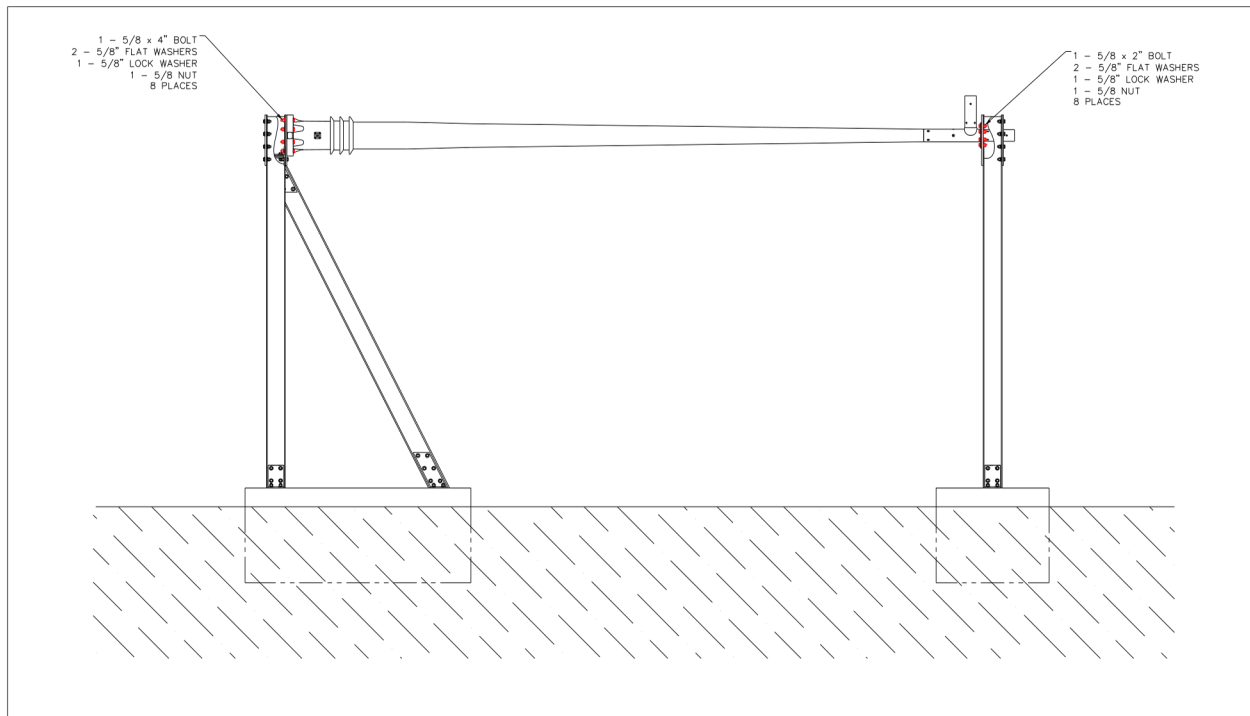

Figure 4-13 Assembly steps 15 and 16
- (15) Securely fasten the base side of the antenna to the three-legged structure using eight 5/8" x 4" bolts. Apply a few drops of thread-locker (Item 23, Table 2-1) to the threads before assembly. Refer to Figure 4-13.
- (16) Securely fasten the joint side of the antenna to the two-legged structure using eight 5/8" x 2" bolts. Apply a few drops of thread-locker (Item 23, Table 2-1) to the threads before assembly. Refer to Figure 4-13.
- (17) Securely tighten all hardware previously only “loosely” installed. Apply a few drops of thread-locker (Item 23, Table 2-1) to the threads before assembly.